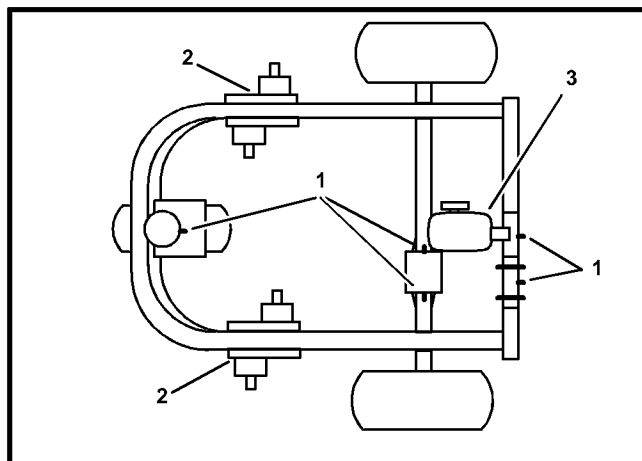

FIGURE 11
Lubrication Fittings; The Lawnaire 28 has eight (8) lubrication fittings (See FIGURE 11 for locations).
Reversing Gear Boxes (See FIGURE 11 for location); lubrication filled gear boxes should require no additional lubrication, add lithium based gun lubricant if required.
Transmission (See FIGURE 11 for location); Remove plug, fill to bottom of plug opening with 80–90W gear lube.